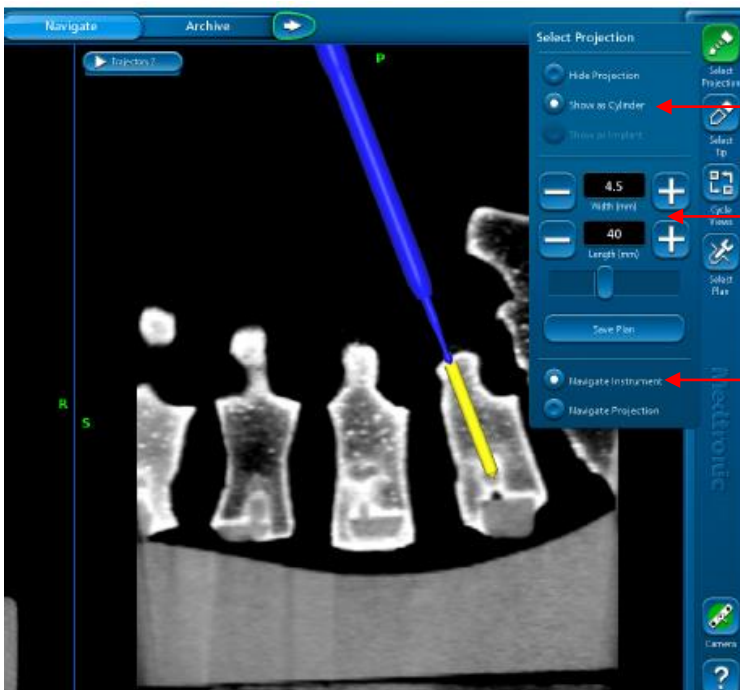

Figure 13
Figure 13 shows options for navigating an instrument or navigating a projection.
- A positive projection is only used with screws added to a driver. Positive projections (shown as yellow in Figure 13) start at the instrument tip and extend away from the instrument.